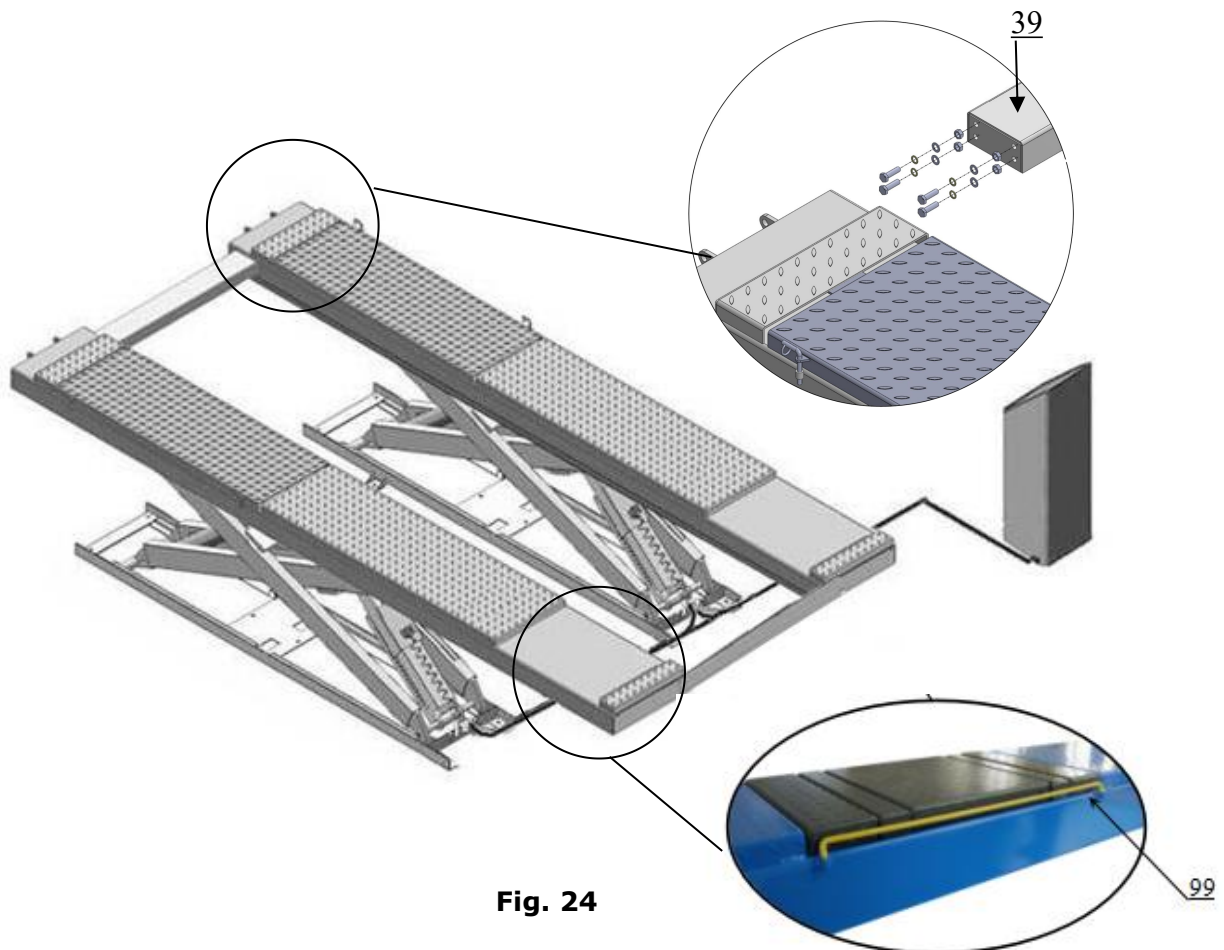

Fig. 24
F. Install platform runway connecting bar, trunplate adjust block bar (See Fig. 24).